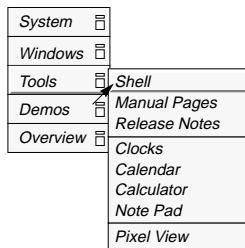

Figure 2-8
1. Open a shell window (Figure 2-8).